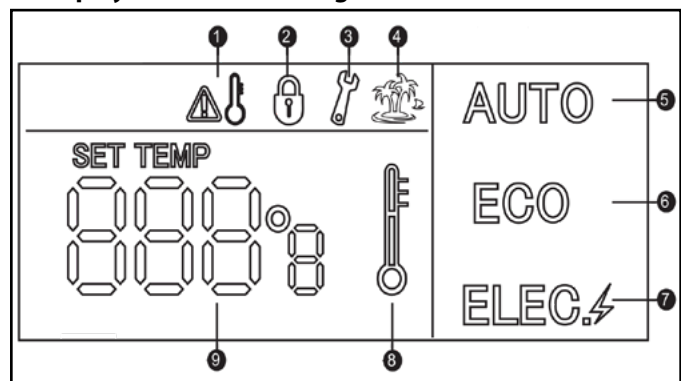

Figure 10 - Display Detail
B. Display Overview - See Figure 10